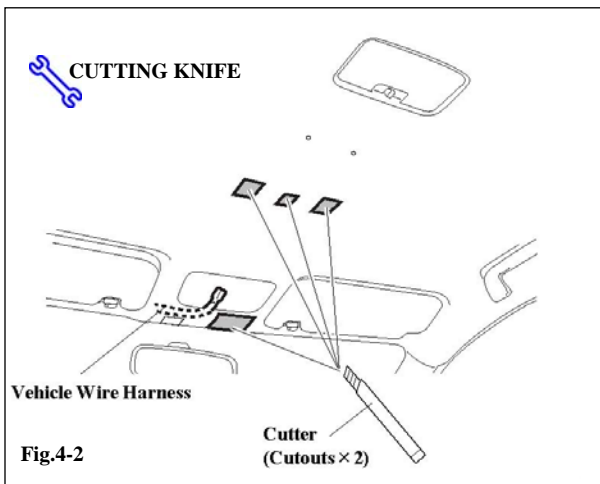

Fig.4-2
- (a) Cut along the marked lines to remove the L-shaped and rectangle hatched area from the roof headlining, as shown in the Fig.4-2. (Refer to “How to make cutout for overhead console installation Fig4-1.)